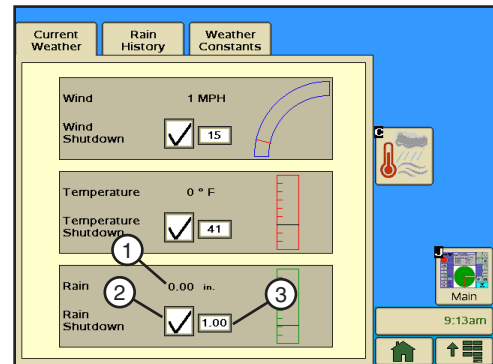

Figure 68-1 1. Rainfall Field
1. Push **Options**, **Wind/Rain/Temp**, **Current Weather** to display the Current Weather screen to view the current rainfall amount. Refer to Figure 68-1.